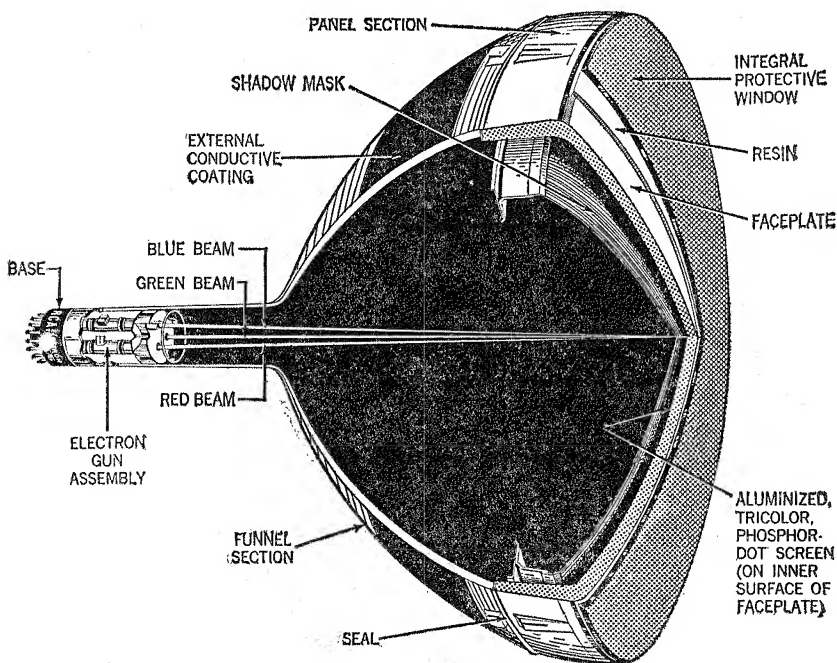

Fig. 11—Cutaway view of color television picture tube.
**Color television picture tubes** are similar to black-and-white picture tubes, but differ in three major ways: (1) The light-emitting screen is made up of trios
of phosphor dots deposited in an interlaced pattern. Each dot of a trio is capable of emitting light in one of the three primary colors (red, green, or blue). (2) A shadow mask mounted near the screen of the tube contains over 300,000 apertures, one for each of the phosphor dot trios. This mask provides color separation by shadowing two of the three phosphor dots of each trio. (3) Three closely spaced electron guns, built as a unit, provide separate beams for excitation of the three different color-phosphor-dot arrays. Thus it is possible to control the brightness of each of the three colors independently of the other two. Fig. 11 shows a cut-away view of a color television picture tube.